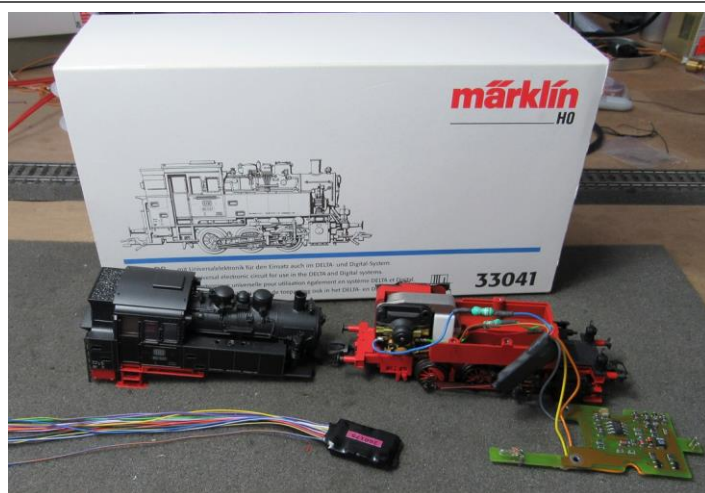
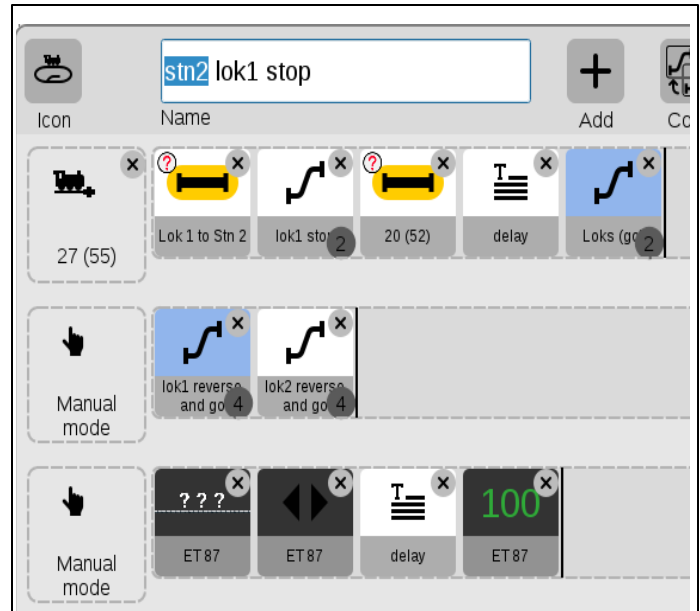

Fig. 4 – Decoder and locomotive ready for install.
Fig. 5: Tier display of nested events
I decided to convert the locomotive to full MFX. I decided not to put a sound decoder into it since I plan on mostly shunting with it. My first choice was a 60972 21-pin decoder and mounting board. This turned out to be too big for the space under the original circuit board. Since I need that board to hold the light bulbs, I decided to go with the wired version, item number 60983 (Fig. 4).
The delay is created by adding a 'Text' step. Fig. 4 shows where to add a 'Text' step while in the event edit mode. The delay configuration is adjusted by clicking the 'Text' step, which will open the settings. I have changed the default text name to 'delay' for future reference.
Fig. 5 shows the three tiers of action steps found in each layer of nested events. When in the editor, if you long press the step, it will open the steps for that nested event. The open tiers are matched to the event step shaded in blue. In the example, 'Loks (go)' contains two events; and the bottom tier shows the steps for the nested event 'lok1 reverse and go'. This is all activated by the trigger '27 (55)' on the top tier.
The delay setting (back in Fig. 5) is like the delay shown in Fig. 4 and does not need more explanation. The flexibility of adding a delay here can be if you would like to have additional delay starts for a particular lok. For example, you may wish to have a longer start delay for a steam engine over an electric.
The final step, in Fig. 5, is the speed value of the lok over the shuttle line. This will most likely need adjusting at any time you change loks in the first step.